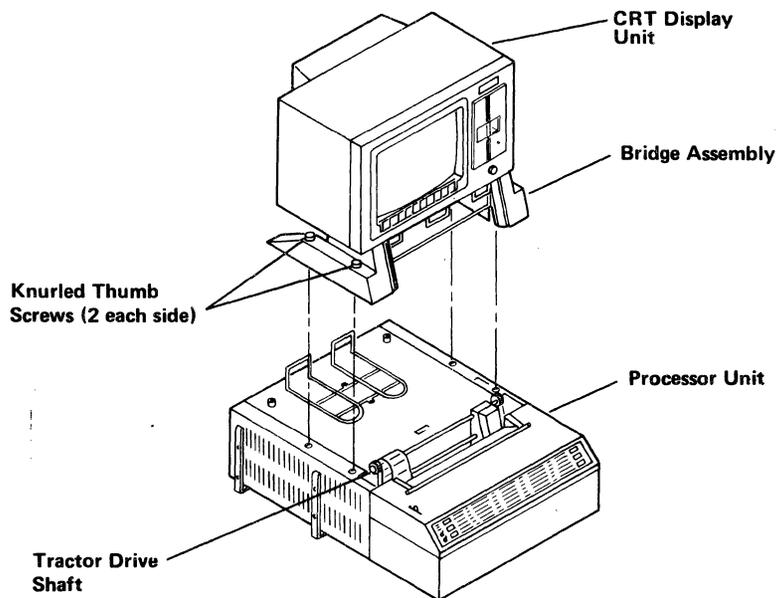

Figure 4-3. CRT Display Unit and Bridge Assembly.
6. Remove the CRT display unit and bridge assembly by loosening the four (4) knurled thumb screws, and lifting the entire assembly. Move the entire assembly out of your way. (See Figure 4-3).
18. Place the CRT display unit and bridge assembly on the processor unit over the bridge mounting holes and secure it to the processor unit by tightening the four (4) knurled thumb screws on the bridge assembly. (See Figure 4-3).
6. Remove the CRT display unit and bridge assembly by loosening the four (4) knurled thumb screws, and lifting the entire assembly. Move the CRT display unit and bridge assembly out of your way. (See Figure 4-3).